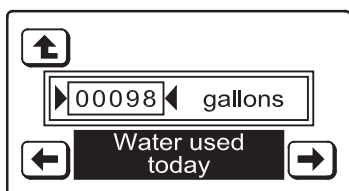

FIG. 84
3. When water is flowing, the **Water used today** screen (See Fig. 84) can be used to check the turbine reading against volume of water exiting the softener. Beginning when this screen is displayed, a beep sounds with each gallon (or liter, as set).